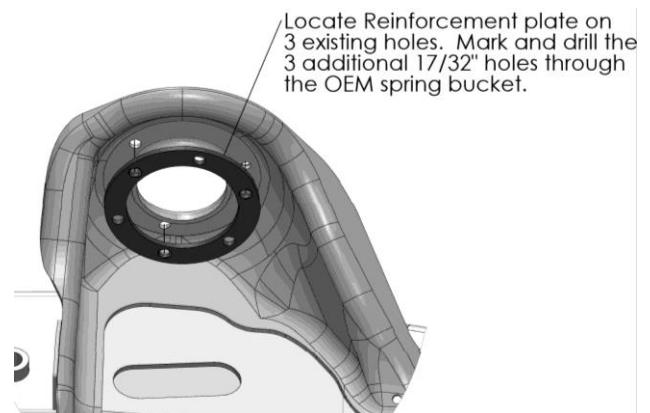

Figure 7: Use reinforcement plate as a template for drilling holes
7. Using the reinforcement plate (found in USM Installation) as a template, align 3 of the existing holes, then mark and drill the 3 additional 17/32" holes in the upper spring bucket to 17/32". See Figure 7